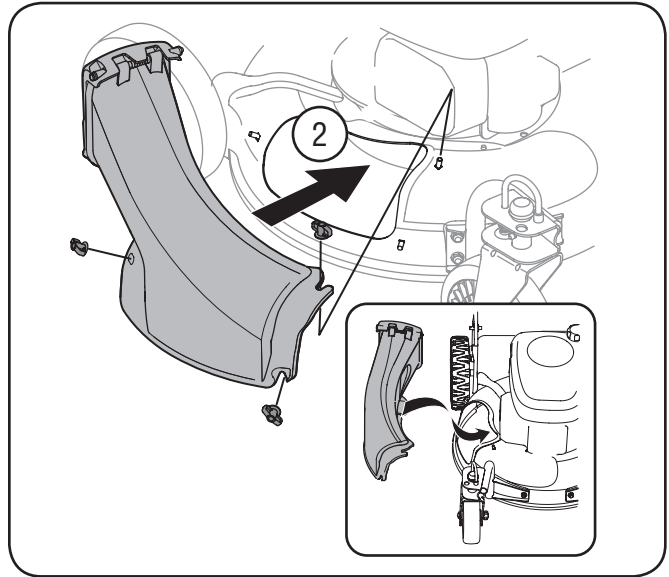

Figure 3-4
2. Replace with grass bag adapter, while making sure the front lip of adapter goes under the edge of the deck. Refer to Figure 3-4. Secure with wing nuts previously removed.